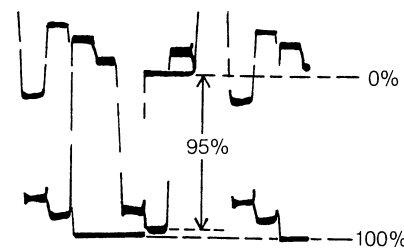

Fig. 4-3
- Press the VOL. UP/DOWN key on the remote control until the red color level is set to the 95% from white 0% (Refer to Fig. 4-3).